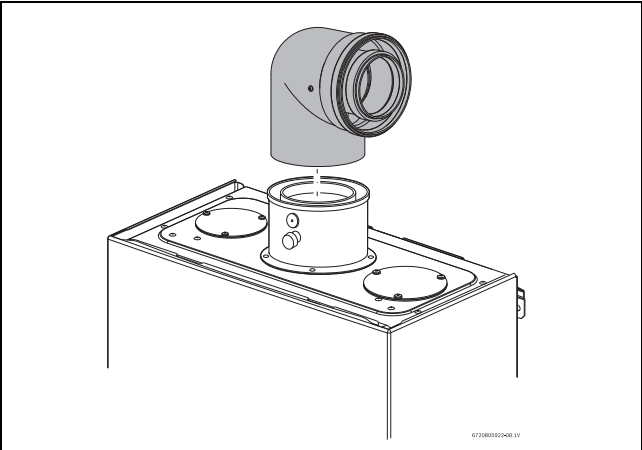

Fig. 6 Installing elbow
Use the blind cover and gasket supplied with the kit to close the second combustion air opening on the top of the appliance (→ Fig. 6).
- Measure the length of the vent terminal assembly (→Fig. 6, [1]) taking into account the thickness of the outside wall [S] and the distance from the outside wall to the end of the vent pipe [L]. It is recommended to keep at least 4" (100mm) clearance from the ceiling or joists for accessibility reasons.